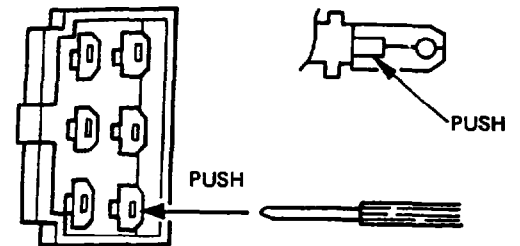

Fig. 10-35
**NOTE:** Push the terminal locks in the connectors with a long, pointed pin to unlock the terminals, and remove them. (See Fig. 10-35.)